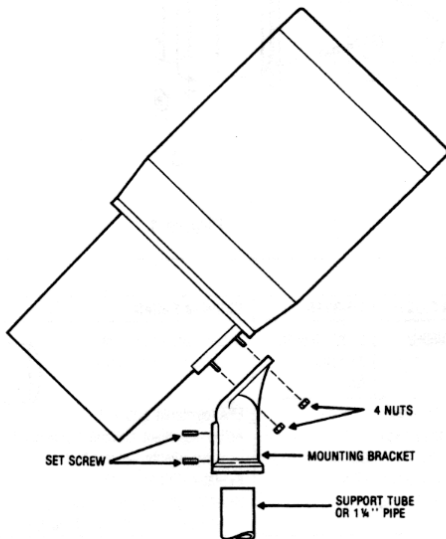

Figure 3
- Attach the chlorinator mounting bracket to the chlorinator (Figure 3) and install the chlorinator onto the support tube.
- C. Attach the mounting bracket to the chlorinator and mount the chlorinator on the support tube or mounting pipe (Figure 3).